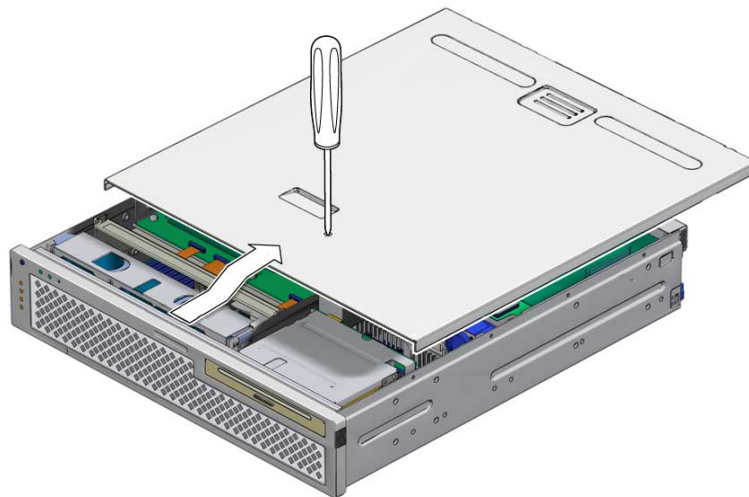

FIGURE 3-4 Removing the Top Cover
1. Press down on the cover release and, using the indent for leverage, slide the cover toward the rear of the chassis approximately 0.5 inch (12 mm). See FIGURE 3-4.